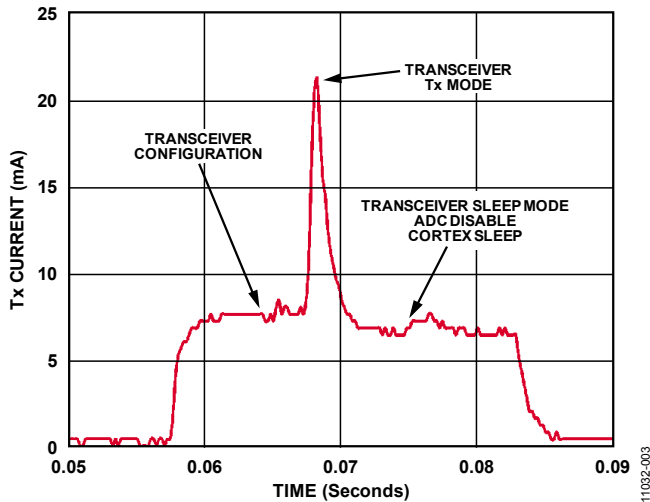

Figure 3. Wireless Data Acquisition System Power Consumption for One Transmission Sequence
Figure 3 shows the power consumption vs. time of a single data transmission sequence. In this circuit, the differential power amplifier (PA) was used at maximum power (10 dBm). The frequency of operation was set to 433 MHz. At 10 dBm output power, the PA consumed in the order of 21 mA.
The amount of time the transceiver transmits at maximum power is minimized by using the maximum ADuCRF101 data transmission rate of 300 kbps. The power consumption can be reduced further by reducing the output power of the PA. The optimal PA output power depends on the transmission distance required in the application. From Figure 3, the average power used in a single transmission sequence in one 10 second period is 22  $\mu$ A. This translates into a CR2032 lithium battery lifetime of approximately 1.2 years. In reality, the lifetime of the battery can be longer because this example assumes a transmission occurs every 10 seconds and does not take into account the case where there is no wind and thus no transmissions.